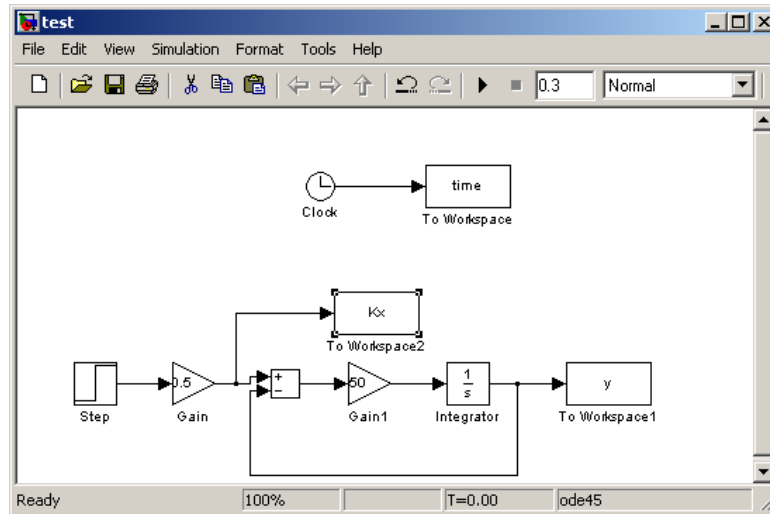

Figure 18: First-order Simulink model with 3 simout variables
12. It may also be useful for use to plot both the output, $y(t)$ and the steady state value. To do this, first modify your Simulink file **Lab1.mdl** to look like Figure 18. Make sure to double-click on the Kx block and make the save format **Array**. Note that you also may need to select an entire group of elements in Simulink to shift your elements around.